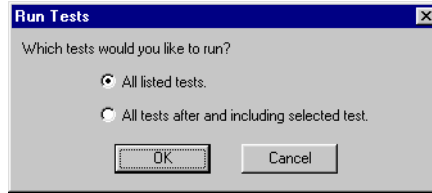

Figure 4-18: Run Tests Dialog Box
5. Click the Run Tests button. The Run Tests dialog box shown in Figure 4-18 opens.